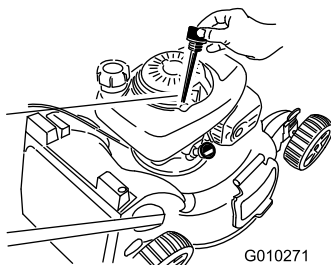

Figure 22
2. Remove the dipstick (Figure 22).